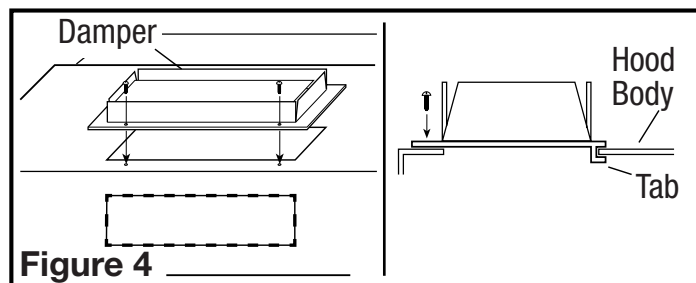

Figure 4
- Install the damper assembly to the hood by sliding the tabbed section of the duct collar under the hood body and securing with the two provided screws. Using approved duct tape, tape around the collar to seal off any air leaks (**Figure 4**).